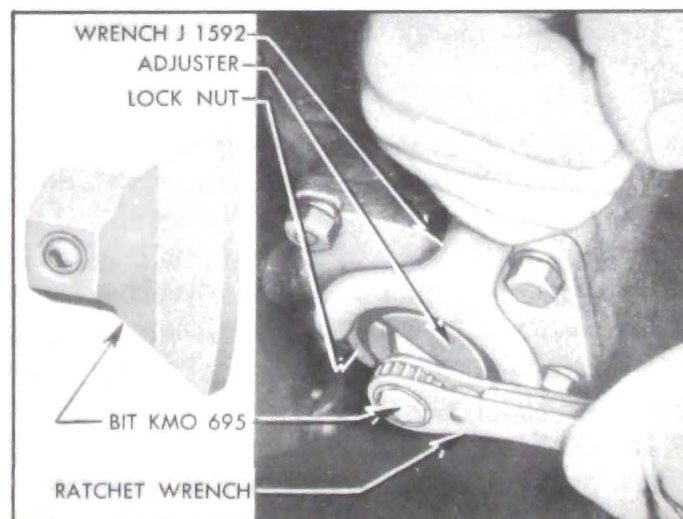

Figure 7-6—Adjusting Worm Thrust Bearings
6. Tighten housing end cover bolts. Loosen worm thrust bearing adjuster lock nut, using Wrench J 1592. Turn thrust bearing adjuster, using Adjuster Bit KMO 695 and a ratchet wrench, until a slight load is felt when turning steering wheel near extreme positions, then tighten lock nut. See figure 7-6. **CAUTION:** Do not back out adjuster far enough to permit thrust bearings to get out of line with ends of worm.